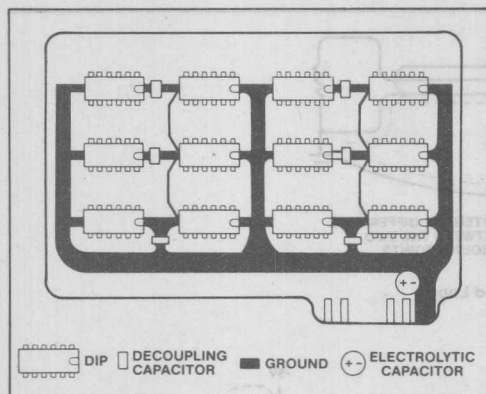

Figure 8. PCB with Gridded Ground
**The Gridded-Ground PCB Layout** — The next best thing to a ground plane is to lay out the ground traces on a PCB in the form of a grid structure, as shown in Figure 8. Laying horizontal traces on one side of the board and vertical traces on the other side allows the passage of signal and power traces. Wherever vertical and horizontal ground traces cross, they must be connected by a feed-through.
Power distribution traces on the PC board need to be laid out so as to obtain minimal area (minimal inductance) in the loops formed by each chip and its decoupler, and by the chip decouplers and the board decoupler. One way to accomplish this goal is to use a power plane. A power plane is the same as a ground plane, but at  $V_{CC}$  potential. More economically, a power grid similar to the ground grid previously discussed (Figure 8) can be used. Actually, if the chip decoupling loops are small, other aspects of the power layout are less critical. In other words, power planes and power gridding aren't needed, but power traces *should* be laid in the closest possible proximity to ground traces, preferably so that